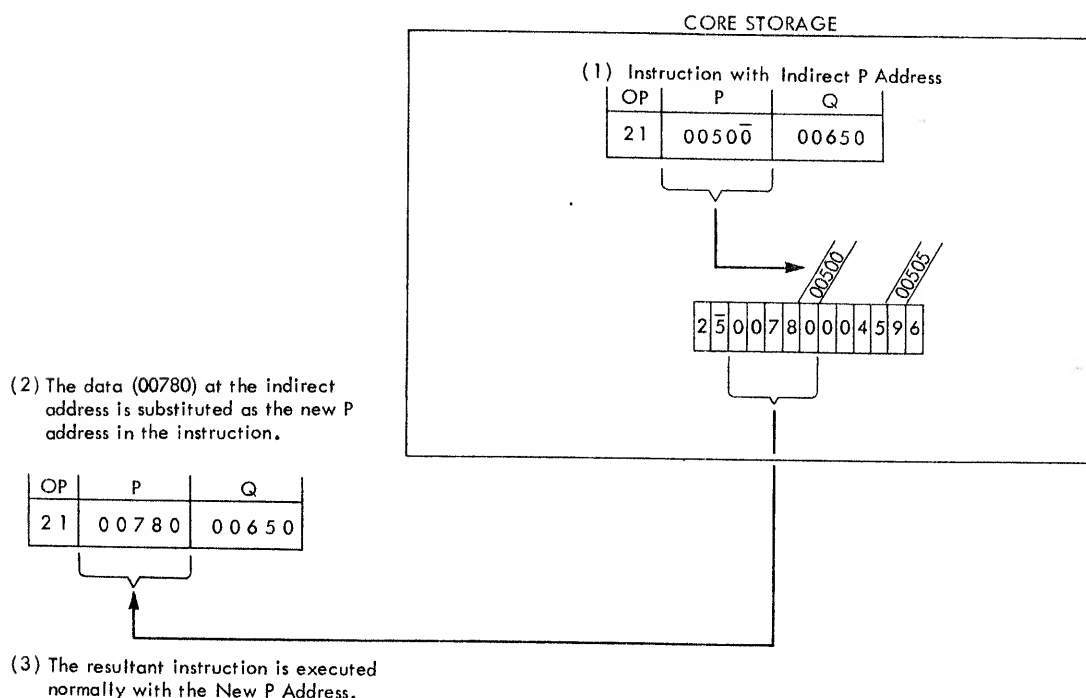

Figure 7. Indirect Addressing Data Flow
The P or Q address of an instruction is indirect when a flag bit is over the units position. Figure 7 shows that (1) the instruction (21 00500̄ 00650) has an indirect P address of 00500, (2) the data at 00500 is 00780, which is used as the P address during execution of the instruction, and (3) the instruction (21 00500̄ 00650) is not altered in core storage; only the instruction register of the 1620 is changed.